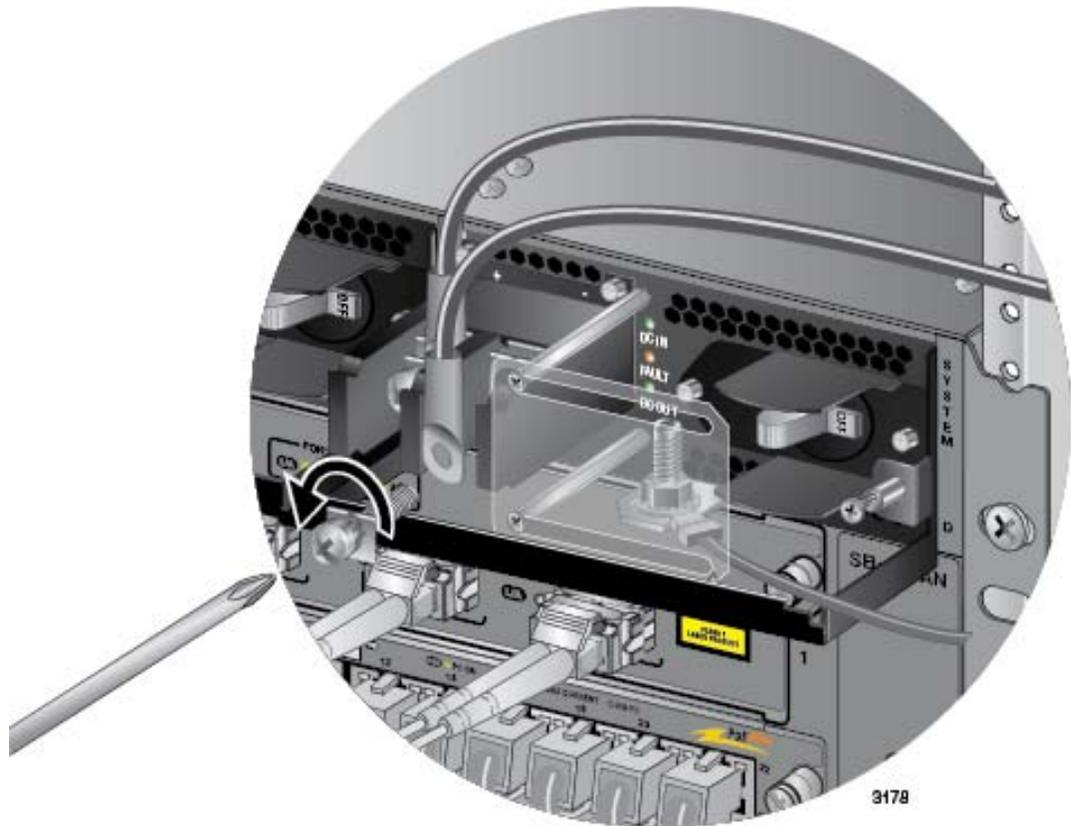

Figure 152. Removing the Negative Lead Wire
5. Use a #3 screwdriver to remove the negative (-) lead wire from the terminal block. The negative lead wire is on the right. Refer to Figure 152 on page 241.